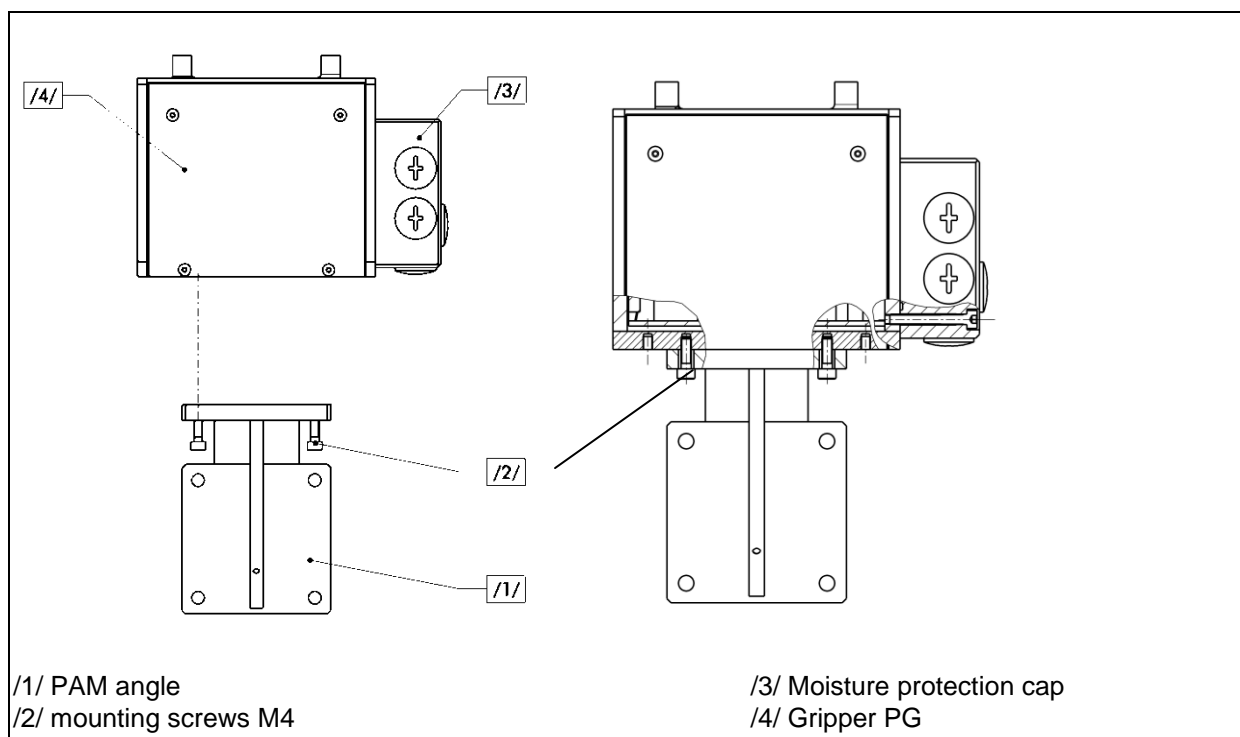

Figure 5 Mounting of the module with connection plate PAM angle
- ➔ see Figure 5 right, page 20